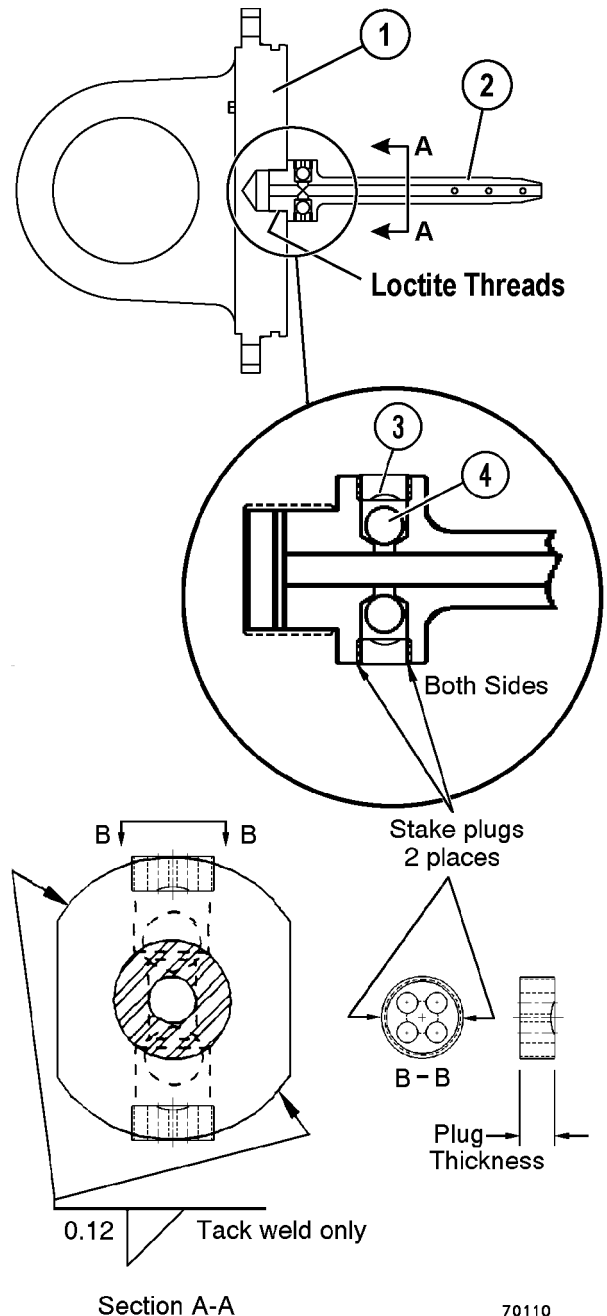

FIGURE 8-21. PLUG & CHECK BALL INSTALLATION
1. Check plugs (3, Figure 8-21) and the check balls (4) in the quill during any cylinder repair to ensure that the plugs are tight and the ball seats are not damaged. Refer to Installation of Check Balls and Plugs in Quill on the next page.
2. Secure cap assembly (1) in a sturdy fixture. Ensure that the threads in the cap and the threads on the quill are clean, dry and free of oil and solvent.
3. Spray the mating threads of both cap assembly (1) and quill assembly (2) with LOCQUIC® Primer T (Komatsu part number TL8753) or equivalent. Allow the primer to dry 3 to 5 minutes.
6. Tack weld the quill in two places as shown in Figure 8-21.
Check balls (4, Figure 8-21) in the side of quill assembly (2) are held in place with threaded plugs (3).
- If the ball seat area is not deformed, measure the plug thickness as shown in Figure 8-21:
2. Spray the mating threads of both plugs (3, Figure 8-21) and quill assembly (2) with LOCQUIC® Primer T (Komatsu part number TL8753) or equivalent. Allow the primer to dry 3 to 5 minutes.
4. Place check balls (4) in the quill tube and install plugs (3) with the concave side facing the ball. Use the SS1158 tool to tighten the plugs to **95 N·m (70 ft lb)**. Allow the parts to cure for two hours before exposing the threaded areas to oil.
5. Stake the plug threads in two places between the holes, as shown in Figure 8-21, to prevent loosening of the plug.